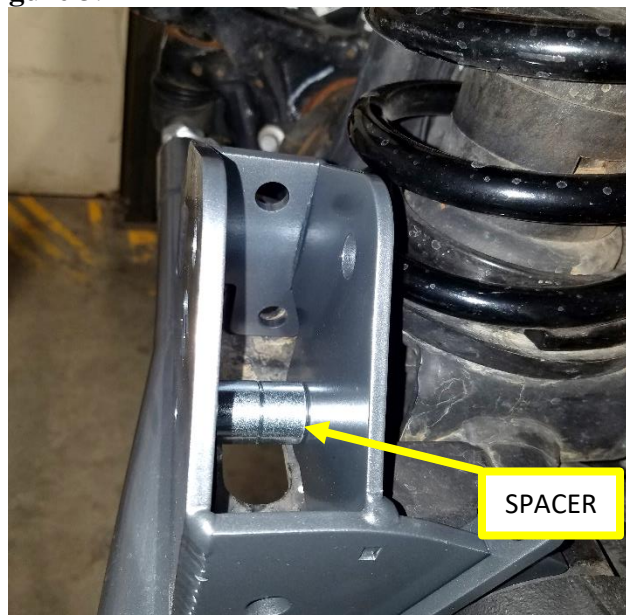

Figure 3. Spacer Installed Inside Bracket
4. Insert the shorter 805504-PL 1.4" long spacer inside the Synergy bracket and factory track bar mount where the factory track bar bolt goes. Install the M14-2.00 x 80mm long bolt with a washer on it in the lower hole of the Synergy bracket and through the factory track bar bolt holes. The bolt should pass through the Synergy bracket, factory mount, spacer, Synergy mount, and exit the back of the factory mount. Use another washer and an M14-2.00 top lock nut to keep the bolt from falling out. Do not tighten yet. See **Figure 3**.